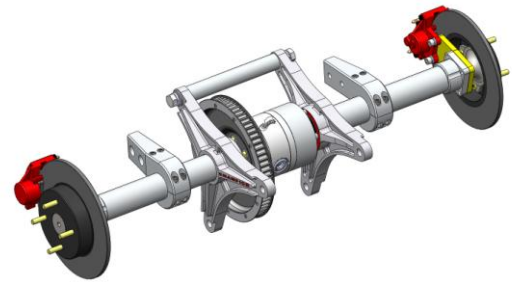

Figure 6
- b. Apply 2-3 drops of oil to threads of 3/4" front cross tube bolts and assemble to specified torque of 150 lb. ft. Figure 6
- c. Remove the two remaining cross tubes to allow for belt installation at a later time. Figure 6